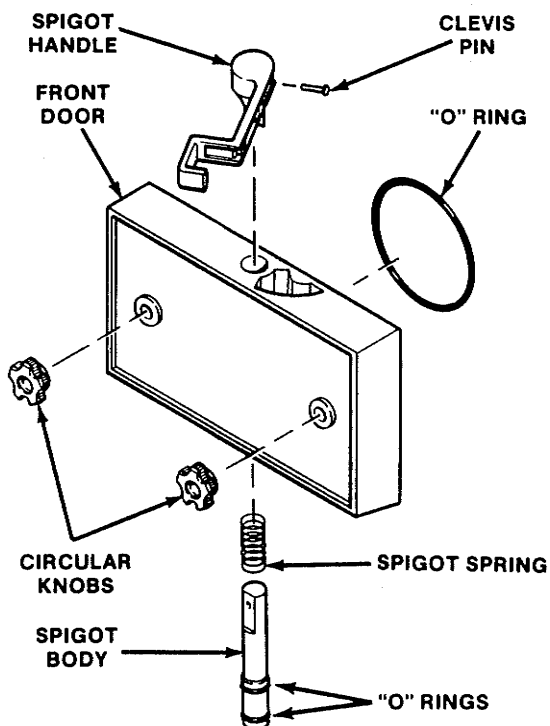

Figure 21. Removing Spigot
- C. Remove the spigot body and spring from the front door by pulling the clevis pin out of the spigot handle. Push the spigot body thru the bottom of the front door (Fig. 21).